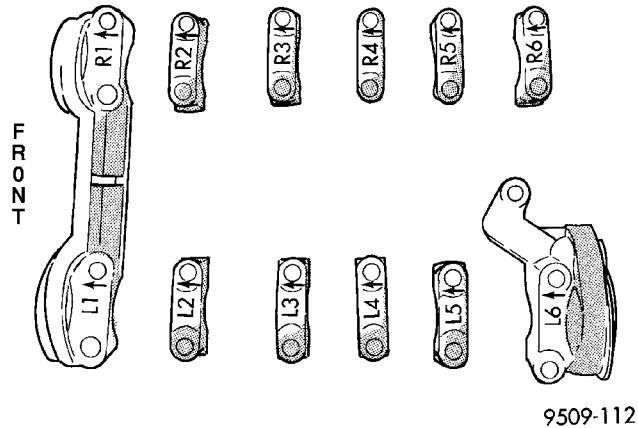

Fig. 1 CAMSHAFT BEARING CAP IDENTIFICATION
2. Remove L2 cam bearing cap (Fig. 1).